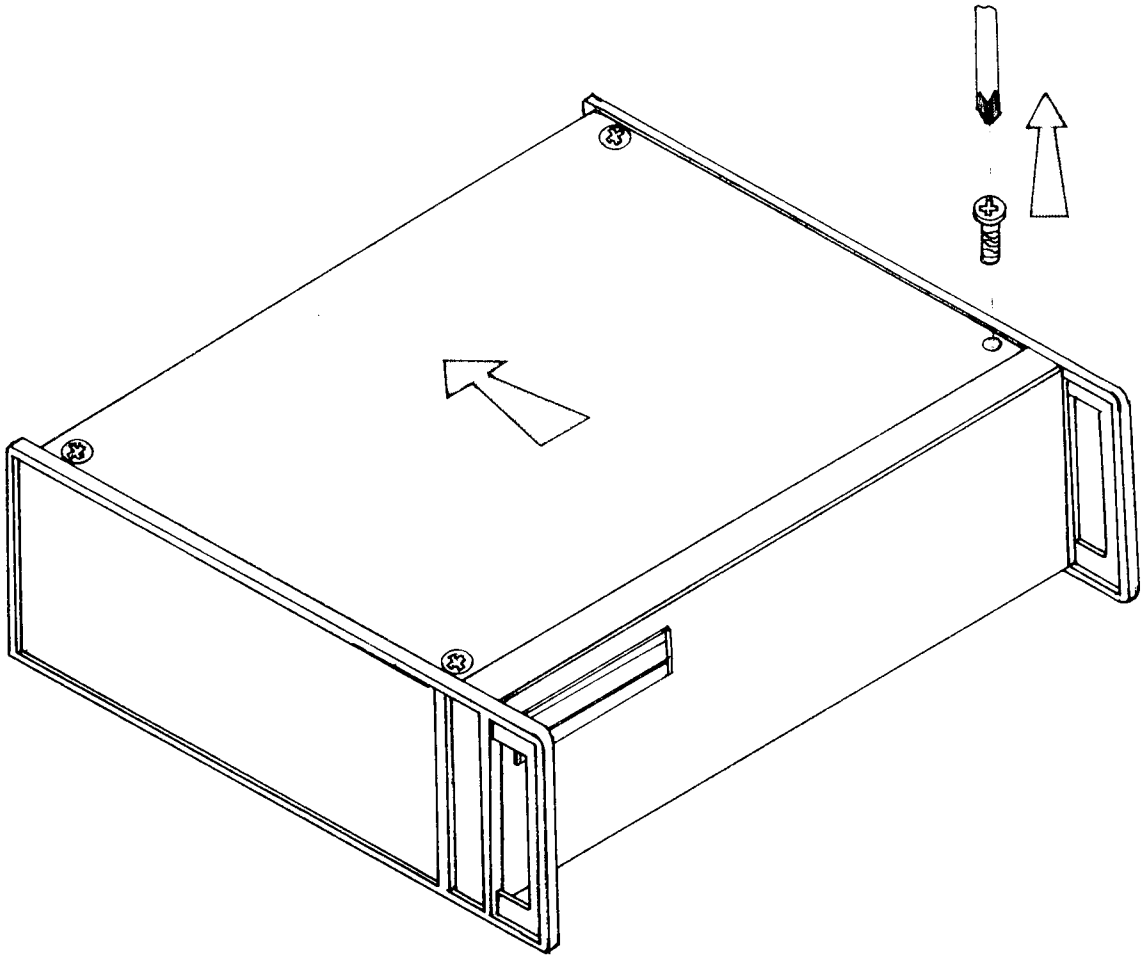

Figure 83. Remove 610B Cover
- c. Remove the four phillips-head screws in the top of the case. Remove the cover (see Figure 83).